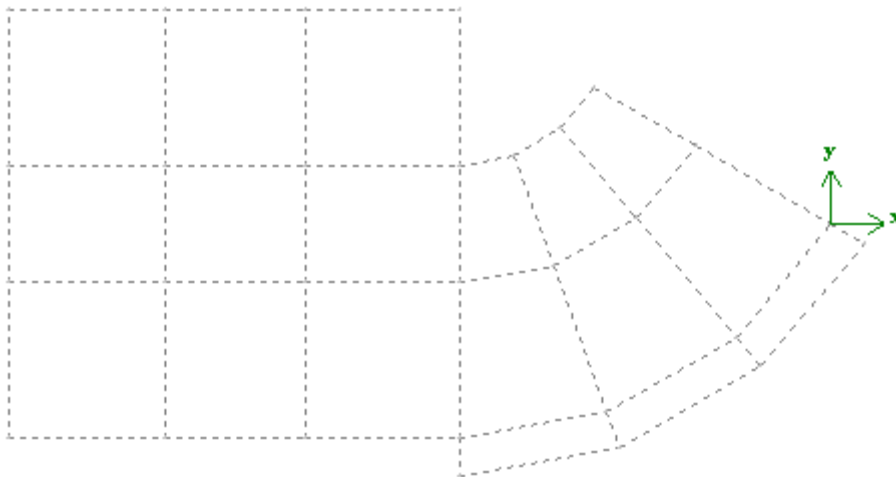

Figure 1.3.4 Move coordinate system
Move the origin of coordinate system to the point of intersection between axis **1a** and **A1** (as it presented in Figure 1.3.4) and rotate coordinate system.
- ⇒ When this mode is active, specify the node on the grid (see Fig.1.3.4).